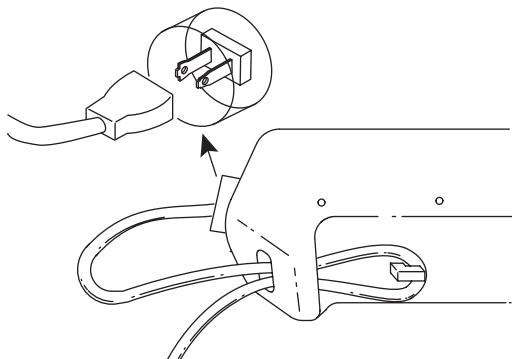

Fig. 4
- Push the loop through the opening and move it onto the hook on the motor housing (Fig. 4).